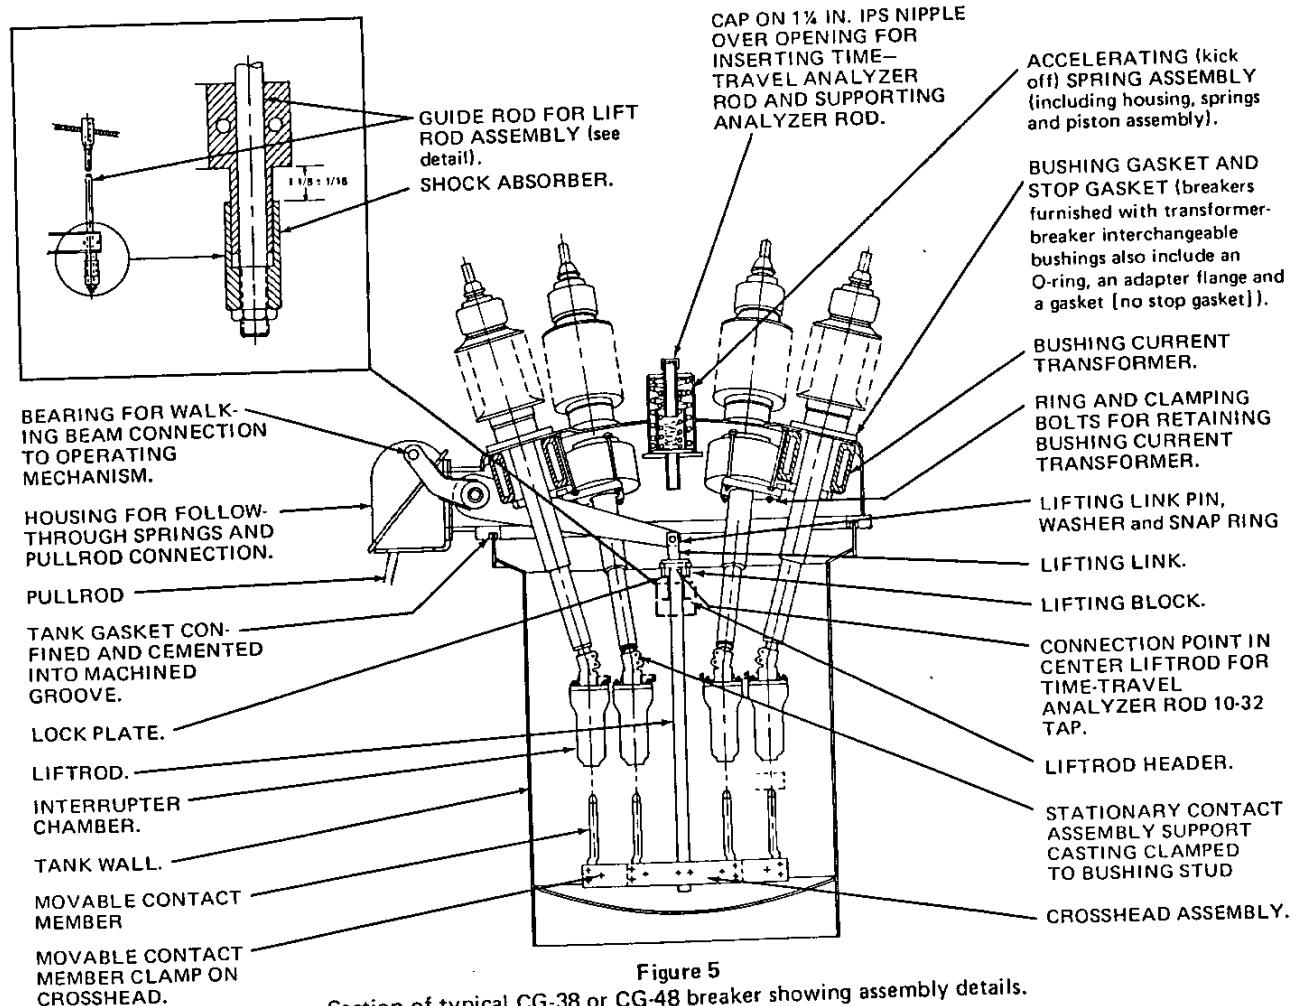

Figure 5
11. Check liftrods to make sure they are vertical and, therefore, parallel with movable contact members (Figure 5).
- A. Make sure that the movable contact members of all three poles are aligned with interrupter chambers so that, on closing the movable contact members will enter the interrupter chambers freely and on center, (Figure 5).
22. Check electrical resistance of the three liftrods (Figure 5).
- A. Conduct a megger test over the full length of each liftrod (Figure 5).
- (1) Electrical resistance of all liftrods must be at least 10,000 megohms.
- B. Remove pipe cap (Figure 5) from the pipe nipple.
- D. Insert the analyzer rod in hole (Figure 5) on the center liftrod.
NOTE: The fitting on the center liftrod has a 10-32 tapped hole for the analyzer rod (Figure 5).
- H. Reinstall pipe cap (Figure 5) on the pipe nipple, re-sealing the cap on the nipple with thread compound.